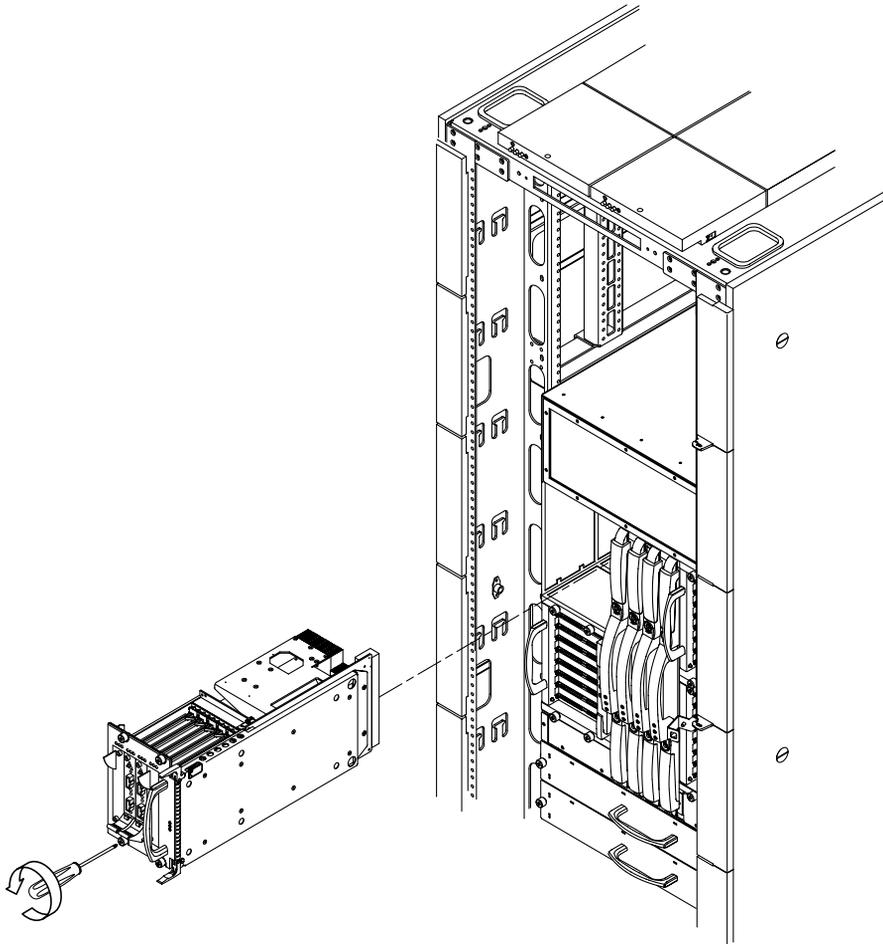

FIGURE 2-4 Replacing a Sun Fire Link Assembly From a Sun Fire 6800 System
5. **With one hand holding the handle and the other hand beneath the assembly for support, slide the assembly out of the opening (FIGURE 2-4).**
5. **Slide the assembly into the card guides, holding the assembly with one hand on the handle and the other hand underneath the assembly, (FIGURE 2-4).**